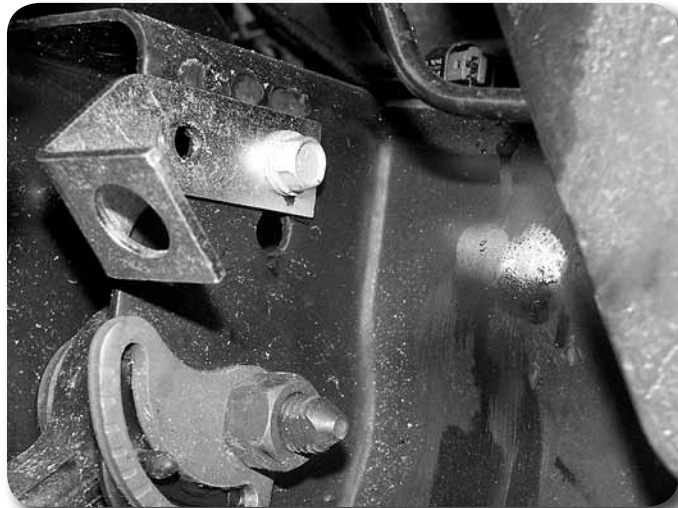

Figure 30
61. Attach the provided brake line bracket to the upper control arm mount using the original mounting hole/hardware and the newly drilled hole/provided 5/16" x 3/4" bolt, nut, and washers. **Figure 30** Leave hardware loose.